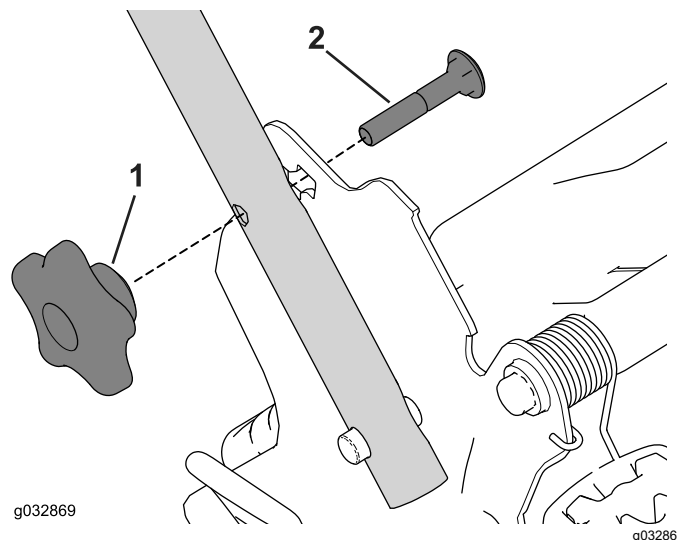

Figure 22
2. Remove and save the 2 handle knobs and 2 carriage bolts from the handle brackets (Figure 22).